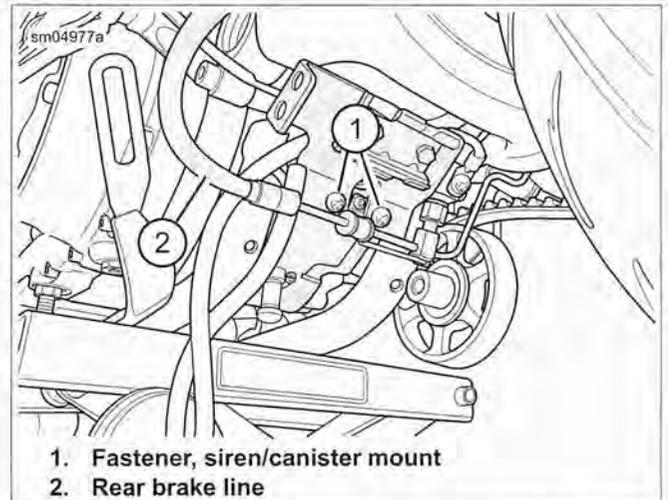

Figure 3-19. Siren/Canister Mount Plate and Brake Line
10. See Figure 3-19. Remove two fasteners (1) retaining siren/canister mount plate and brake line (2) retainer.